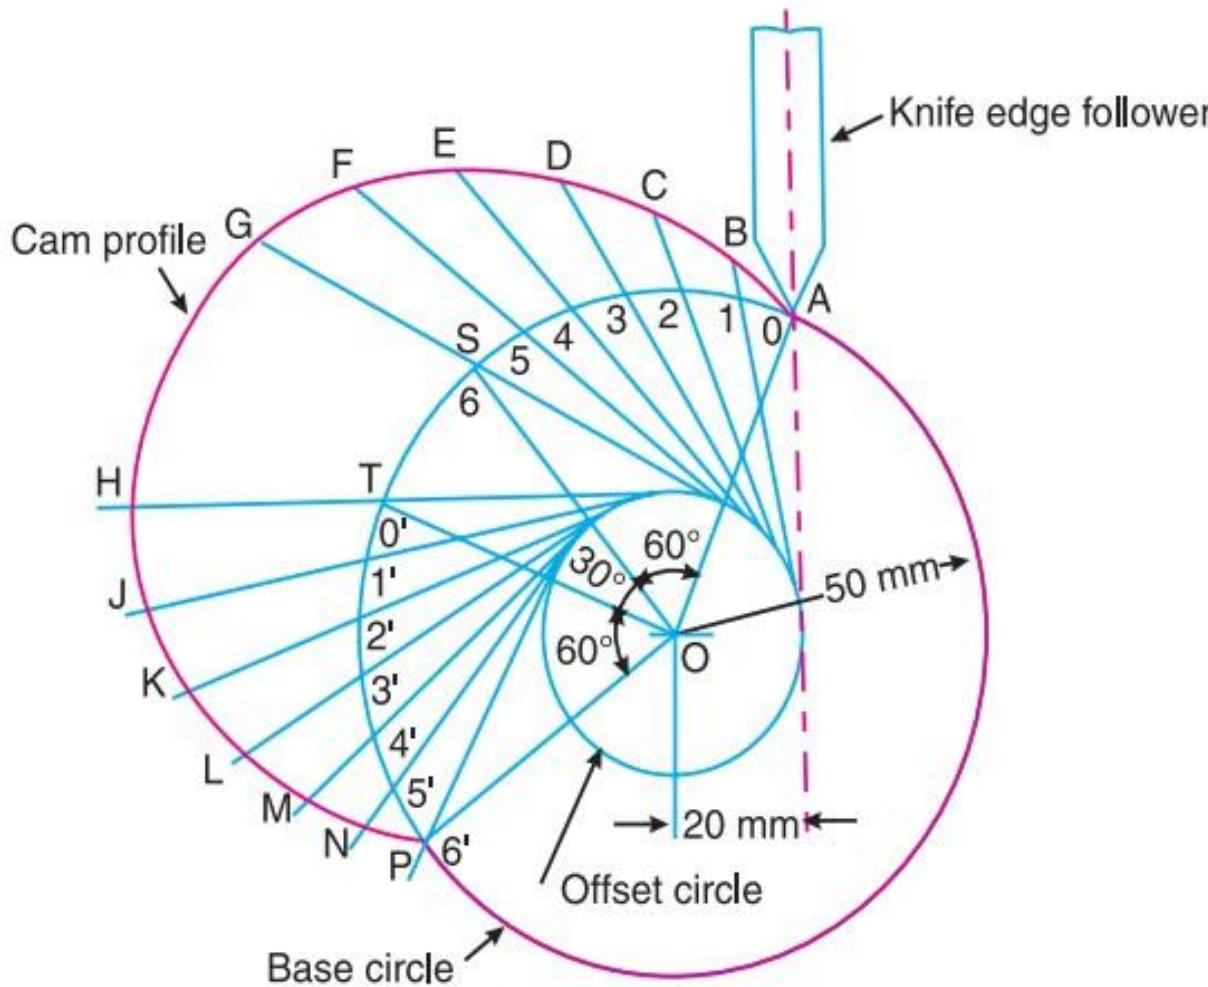

Fig. 20.12
6. Now from the points 1, 2, 3 ... etc. and $0', 1', 2', 3' \dots$ etc. on the base circle, draw tangents to the offset circle and produce these tangents beyond the base circle as shown in Fig. 20.12.
The profile of the cam when the axis of the follower is offset from the axis of the cam shaft, as shown in Fig. 20.12, is drawn as discussed in the following steps :